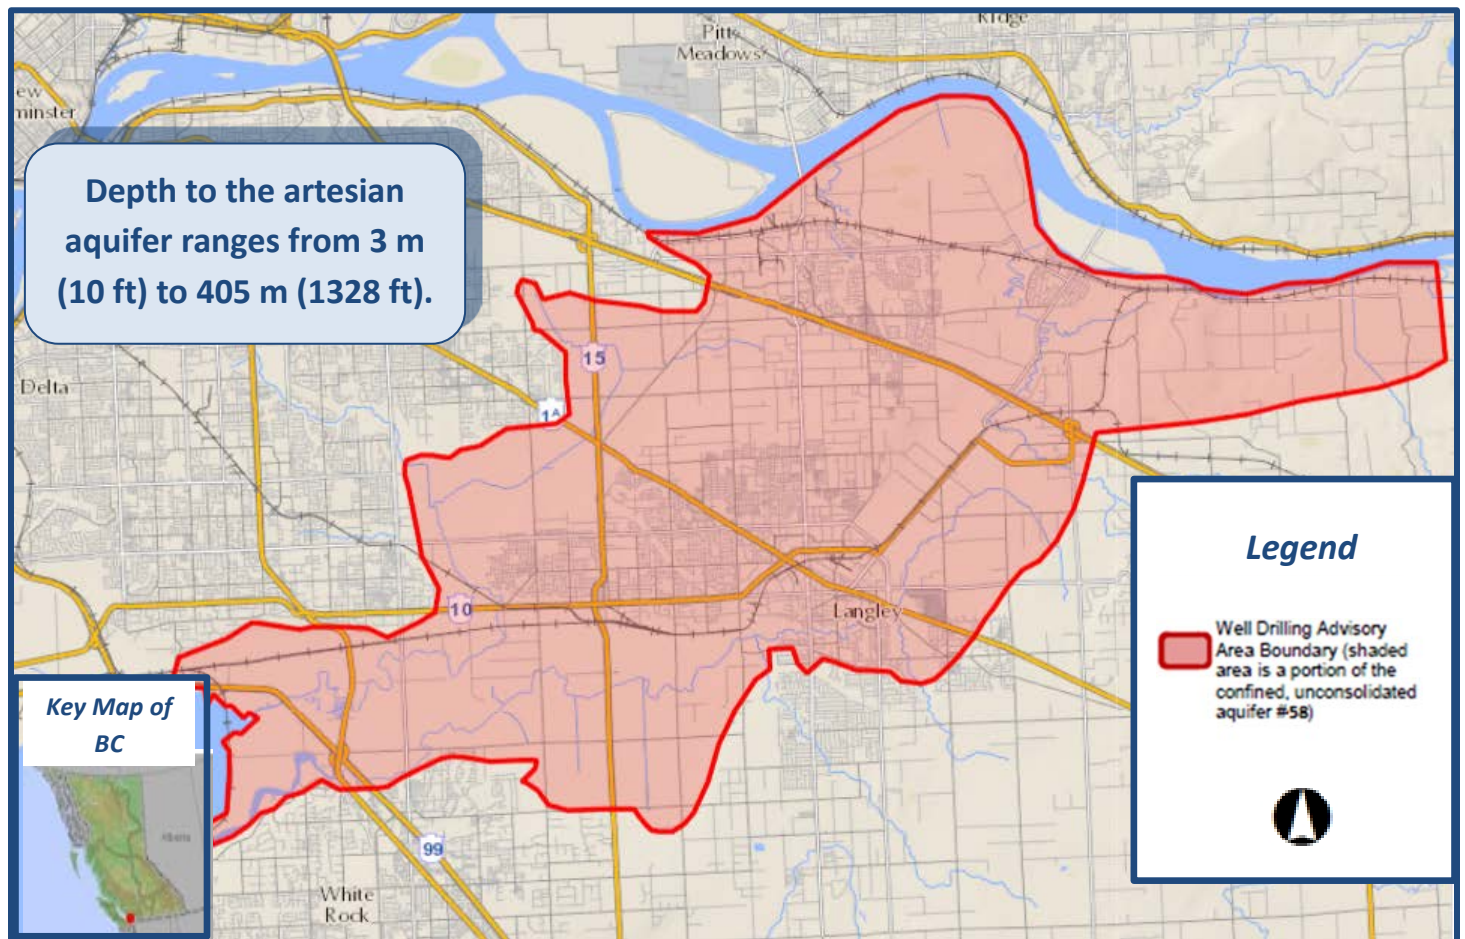

Figure 2: Map of the location of potential flowing artesian conditions (aquifer #58) in Langley and Surrey, B.C.
Aquifer #58 underlies much of the Township of Langley and the western portion of the City of Surrey (Figure 2). It is comprised of sand and gravel of the glaciomarine outwash of the Semiahmoo and possibly pre-Semiahmoo glaciations. The aquifer lies beneath a thick interval of silt and clay. The presence of these low permeability sediments overlaying the aquifer create a confining layer. The confining layer creates a buildup of pressure by restricting flow of water out of the aquifer, resulting in artesian conditions.
Based on available well records, there are extents within the highlighted area in Figure 2 that are not likely under artesian pressure. There are three additional overlapping aquifers (#37, #59, and #60) within the boundaries of Aquifer #58. Aquifer #37 is a shallow unconfined aquifer comprised of Sumas glaciofluvial sand and gravel, which likely does not have artesian conditions. Aquifers #60 and #59 are confined and partially confined, respectively. Although these aquifers may be under artesian pressure, it is possible the pressure does not push the water above ground level to create flowing artesian conditions; however, if you drill through any of these aquifers into an underlying deeper confined aquifer, there is an increased likelihood of encountering flowing artesian conditions.
It is important to understand that geologic conditions are highly variable and information may not be available near the proposed drilling location(s); therefore, neither the presence nor absence of flowing artesian conditions can be known with certainty prior to drilling. Therefore, when drilling into aquifer #58 (see Figure 2) in Surrey and Langley, it should always be assumed that flowing artesian conditions will be present and assume a precautionary approach (e.g., installing and sealing a surface casing of sufficient length). The well driller and home owner must be prepared for the resulting costs, planning time, materials, expertise and equipment needed to construct the well to control or stop any artesian flow.
- Assume flowing artesian conditions will be encountered in the subject area (Figure 2).